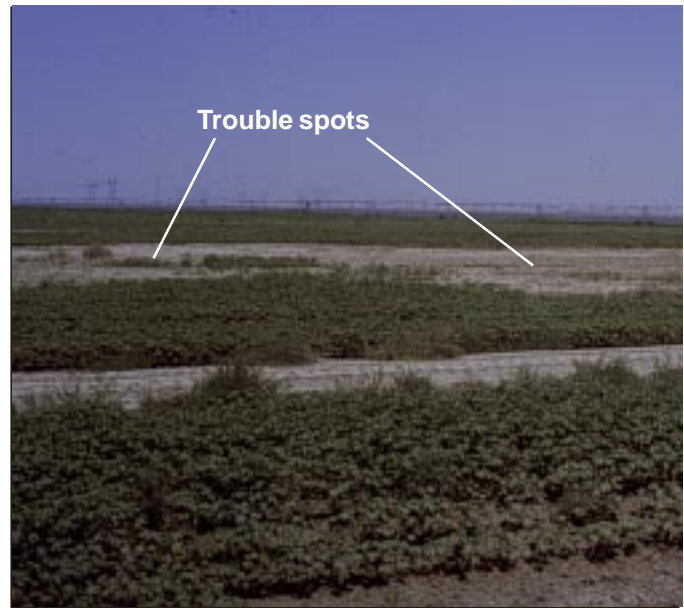

Figure 1.2
- (2) For assessment of trouble spots within a field, sample areas that are representative of the trouble spots (**Figure 1.2**).
- (3) When comparing management systems, make sure sites selected for comparison have the same soil type and are located on the same topographical features in both fields. For example, if sites are measured in the wheel tracks in one field, wheel tracks sites should be selected in the comparison field.
- (4) When monitoring changes in soil quality over time, make sure the same sites within the field are measured at each sampling time. Also, try to take measurements at the same soil moisture conditions at each sampling time to reduce variability.